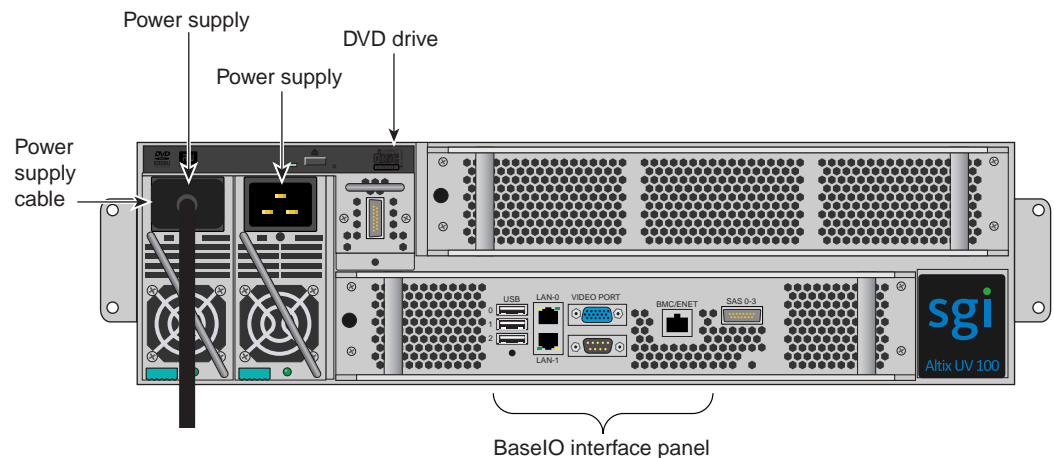

Figure 1-3 IRU Power Supply Cable Location Example
2. For each individual IRU that you want to power on, make sure that the power cables are plugged into both the IRU power supplies correctly, see the example in Figure 1-3. Setting the circuit breakers on the PDUs to the "On" position will apply power to the IRUs and will start the CMCs in the IRUs. Note that the CMC in each IRU stays powered on as long as there is power coming into the unit. Turn off the PDU breaker switch on the PDU(s) that supply voltage to the IRU's power supplies if you want to remove all power from the unit.